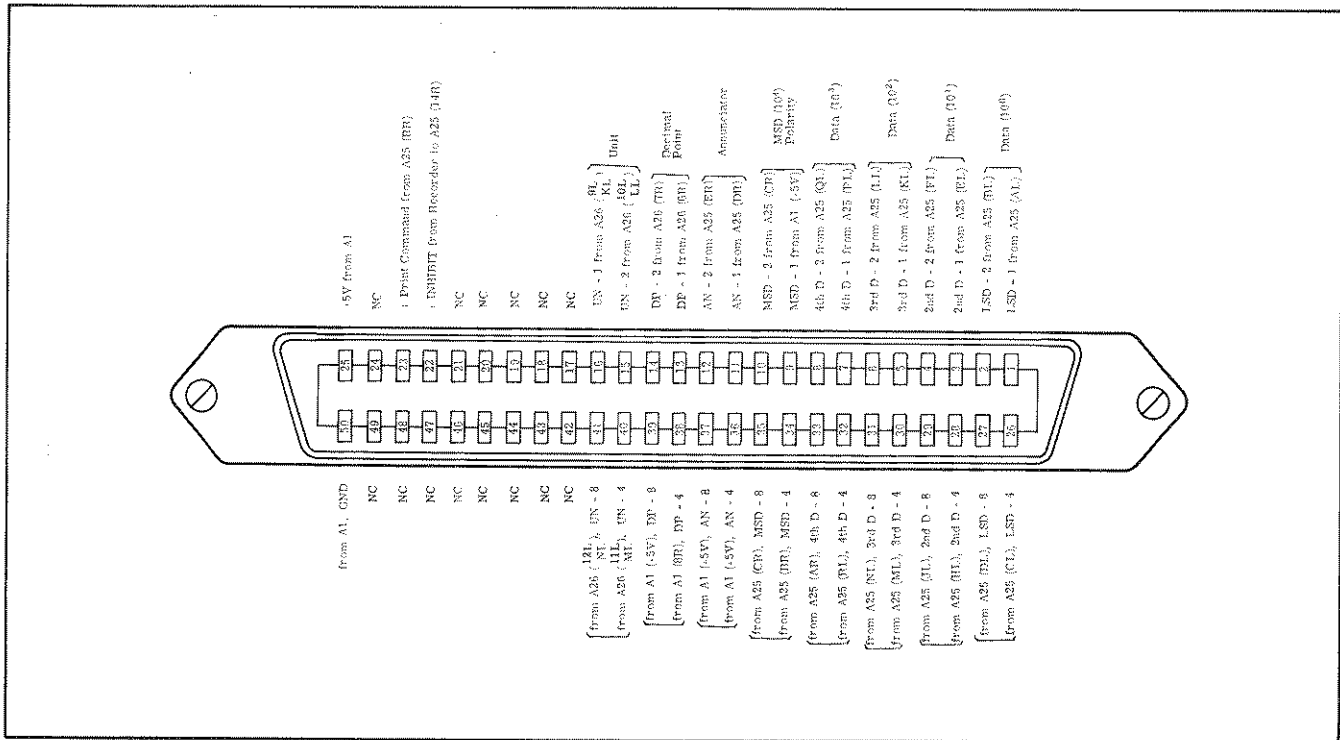

Figure 3-18. Connector Pins and Signals (OPT. 004).
d. See also Table 3-9 and Figure 3-18.